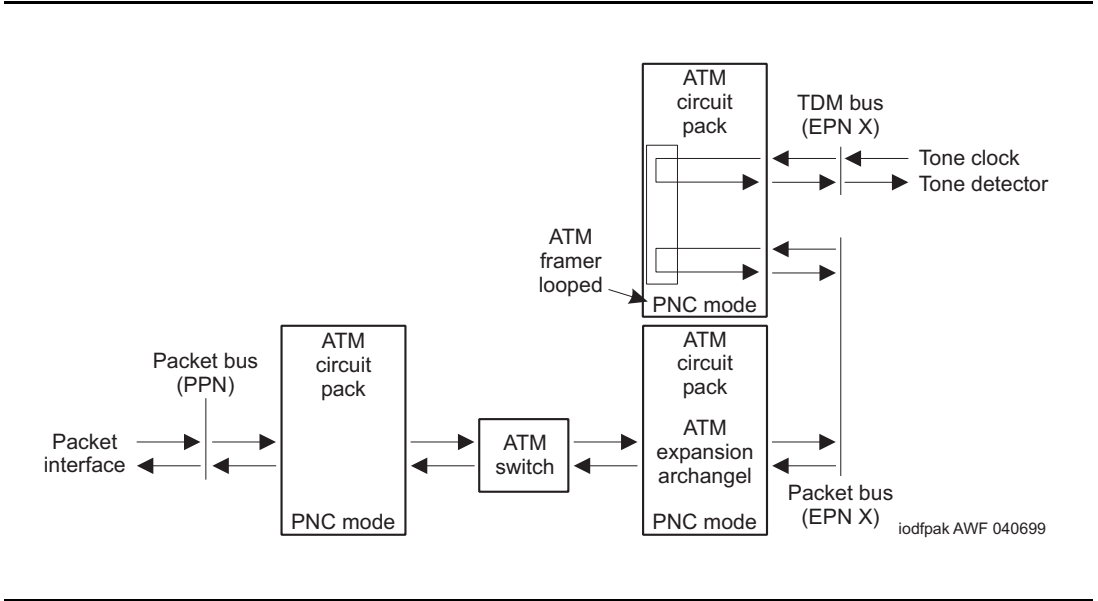

Figure 5-9. ATM Board Framer Looparound Test (#1260)
- **Packet path:** the Packet Interface circuit pack sends packet data to the ATM framer interface, where it is mapped into ATM cells and then looped around internally. The cells are converted back to packet data after it has been looped. This portion of the test verifies correct operation of the ATM-EI's Packet bus interface and a large portion of the ATM-EI's packet paths. Figure 5-9 shows the packet switched signal path for the ATM circuit pack.